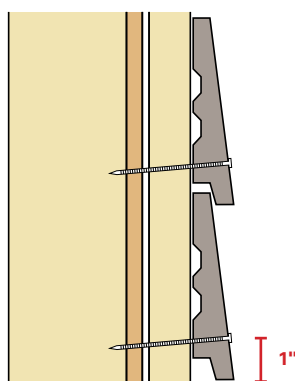

Fig. 14
- Nail at 1" from the base (long edge) of the board. (See Figure 14)